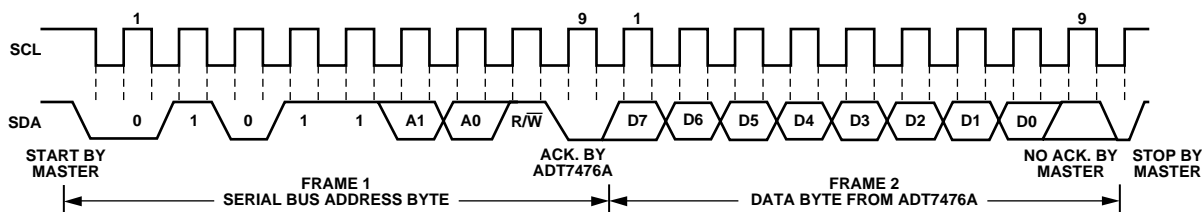

Figure 20. Reading Data from a Previously Selected Register
A read operation is then performed consisting of the serial bus address;  $\overline{R/W}$  bit set to 1, followed by the data byte read from the data register (see Figure 20.)
2. If the address pointer register is already known to be at the desired address, data can be read from the corresponding data register without first writing to the address pointer register (see Figure 20).